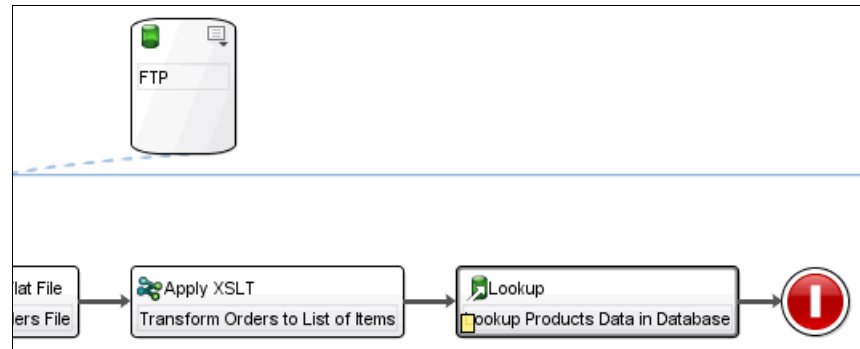

Figure 12-52 Lookup activity
1. Drag **Data Quality** → **Lookup** from the Activities tab to the right of the Apply XSLT activity. Rename it to **Lookup Products Data in Database**. Refer to Figure 12-52.